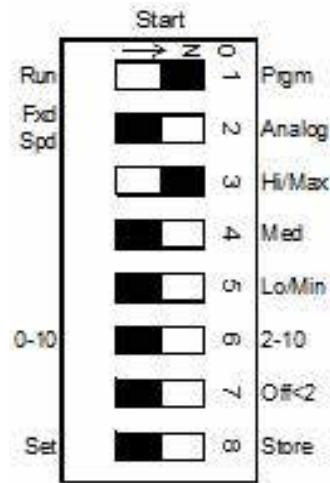

FIGURE 16 - HIGH SPEED ADJUST
1. **High Speed Setting Adjust:** Set Configuration Switch to HIGH SPEED adjust (see *Figure 16 on page 28*). Switches to ON-OFF-ON-OFF-OFF-OFF-OFF-OFF.